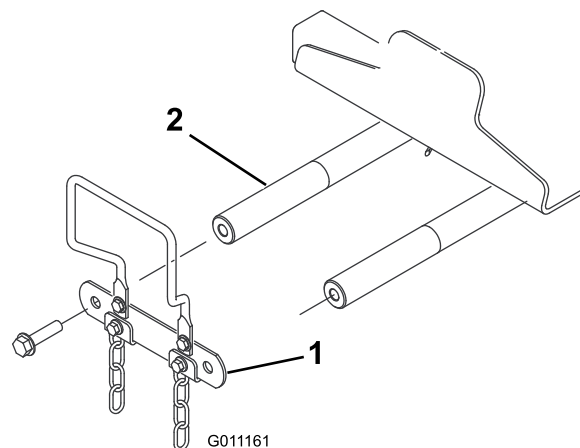

Figure 8
4. At the front of the machine, remove the 2 flange capscrews (1/2 x 2 inches) that secure the pivot-shaft link to the lift arm pivot shafts, and remove the link (Figure 8).